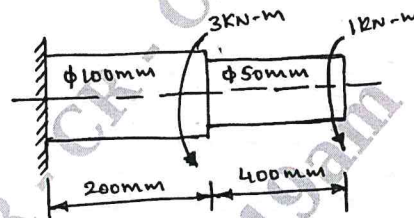

Fig.Q6(b)
b. A solid stepped bar of circular c/s shown in Fig.Q6(b) is subjected to a torque of 1 kN-m at its free end and torque of 3 kN-m at its change in c/s section. Determine the angle of twist and shear stress in the bar. Take  $E = 2 \times 10^5 \text{ N/mm}^2$ ,  $G = 7 \times 10^4 \text{ N/mm}^2$ .